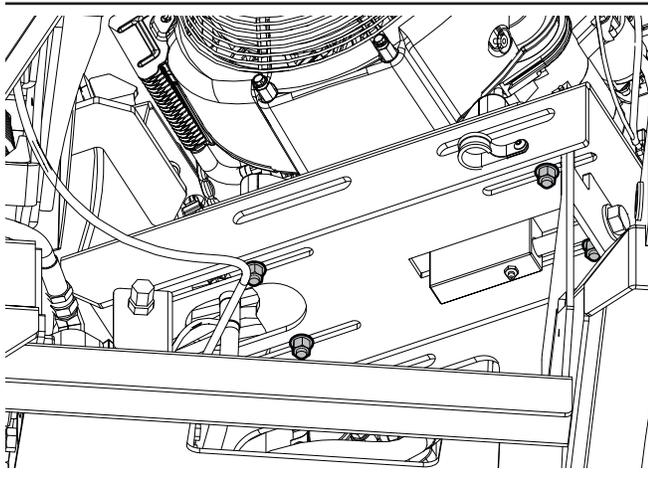

Figure 48 – Engine mount bolts
2. Loosen the four bolts that attach the engine mount to the machine frame. See *Figure 48 on page 70*.
3. Loosen (do not remove) the four bolts that attach the engine mount to the machine frame. See *Figure 48 on page 70*.
See *Figure 48 on page 70*.